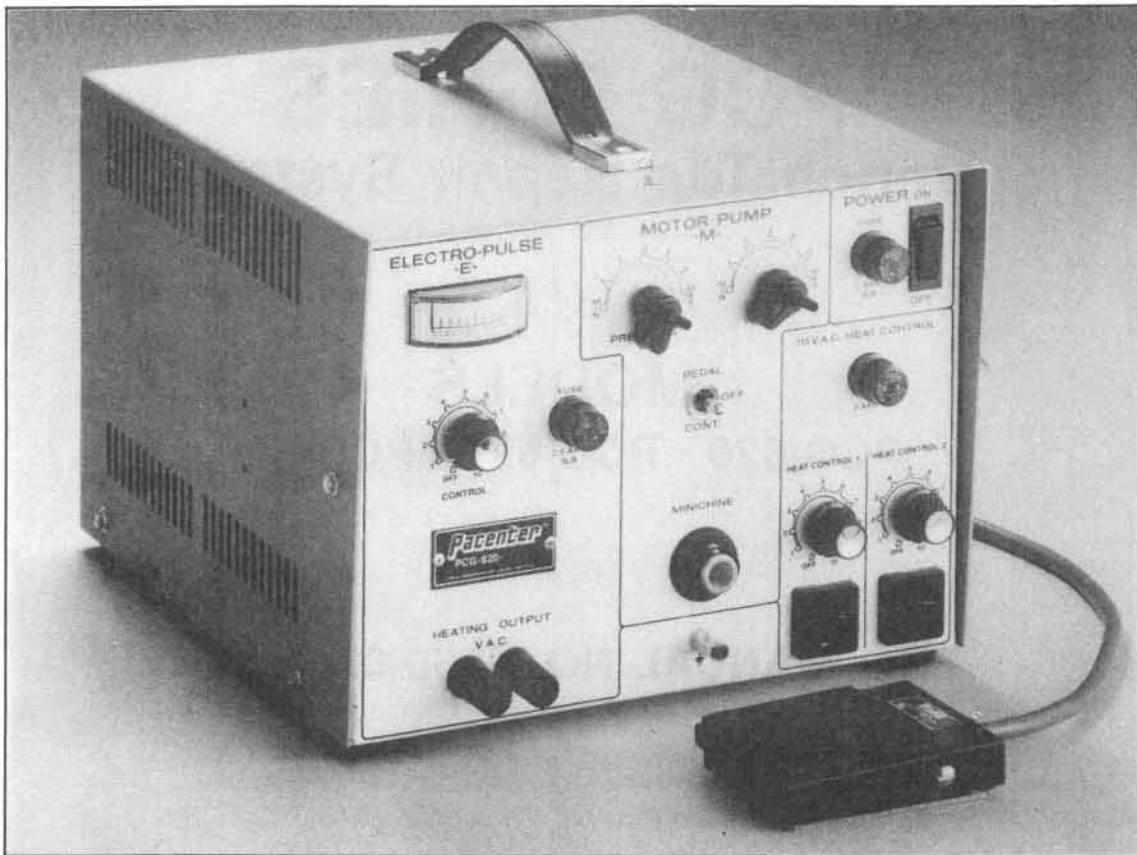

FIGURE 1. PACE REPAIR SYSTEM(s) PCG-620 (shown), PCG-621 AND PCG-630
There are three (3) versions of the PACE PCG Series providing a completely self-contained Bench Top Repair System for the repair, rework and modification of PCB assemblies, (refer to Figure 1).